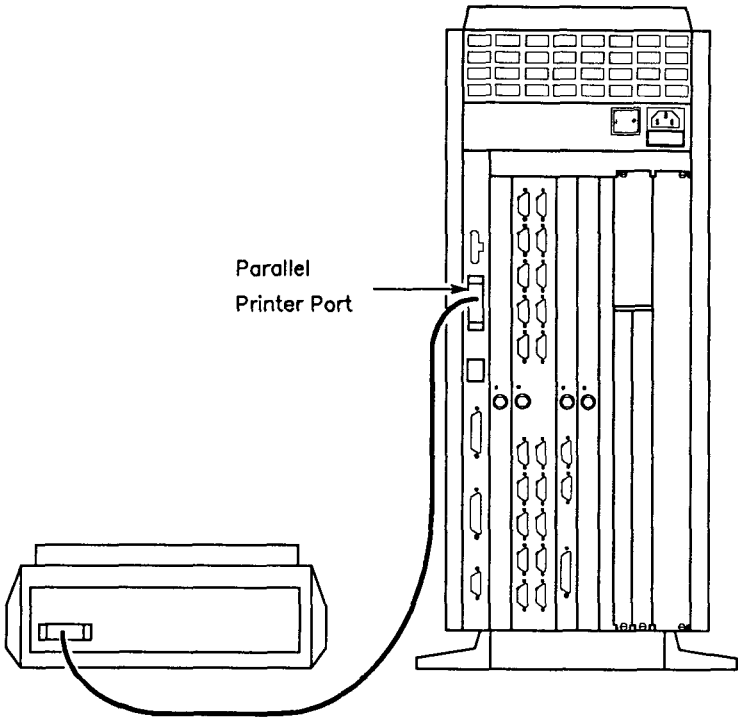

Figure 2-2. Attaching the Parallel Line Printer
2. Attach the connector at the other end of the cable to the connector on the parallel line printer as shown in Figure 2-2.